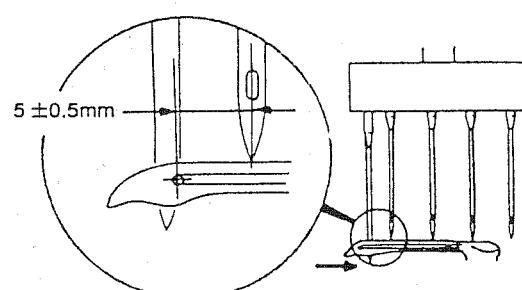

Fig.14
(3) To check the position of the looper in relation to the right interlock stitch needle (Fig. 14)